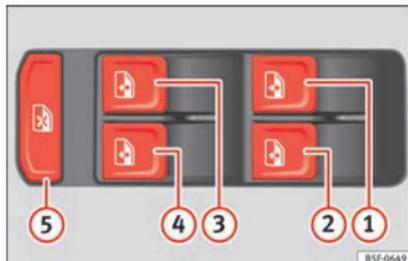

Fig. 137 Detail of the driver door: controls for the windows (5-door vehicle with front and rear electric windows).
Buttons » Fig. 137 ①, ②, ③ and ④ have two positions for opening windows and two for closing them. This makes it easier to open and close windows to the desired position.